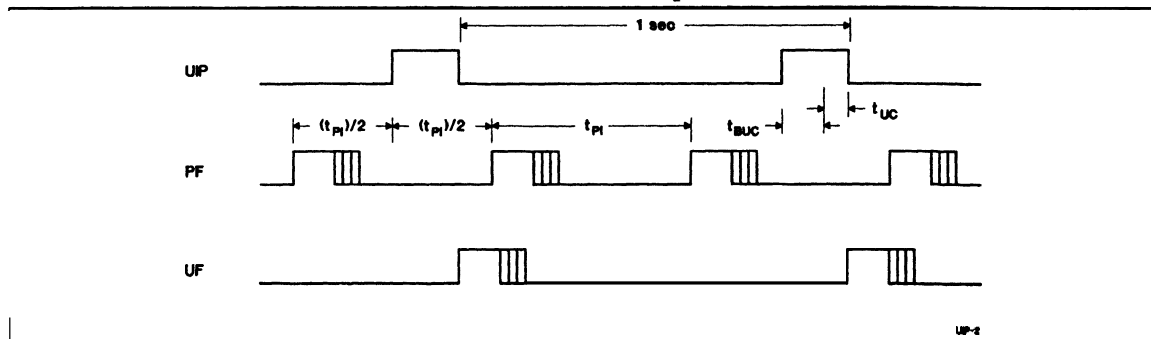

Figure 3. Update-Ended/Periodic Interrupt Relationship
- Enable the update interrupt event to generate **interrupt requests** at the end of the update cycle. The interrupt handler **has** a maximum of **999ms** to **access** the **clock bytes** before the next **update cycle begins** (see Figure 3).
- Poll the update-in-progress bit (UIP) in register A. If **UIP = 0**, the polling routine **has** a minimum of **tBUC** time to **access** the **clock bytes** (see Figure 3).
- Use the periodic interrupt event to generate **interrupt requests** every **tPI** time, such that **UIP = 1** always occurs between the periodic interrupts. The interrupt handler **has** a minimum of **tPI/2 + tBUC** time to **access** the **clock bytes** (see Figure 3).